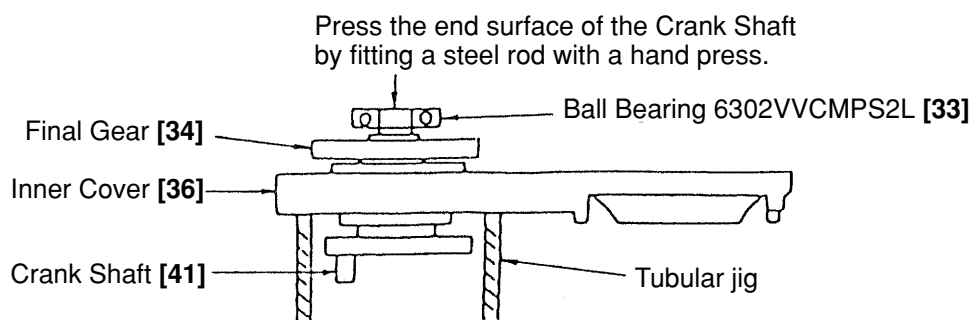

Fig. 13
First, remove the four Seal Lock Hex. Socket Hd. Bolts M5 x 16 [40] which fix the Bearing Cover [39]. Then, as illustrated in Fig. 13, support the lower surface of the Inner Cover [36] with an appropriate tubular jig, align an appropriate steel rod with the end surface of the Crank Shaft [41], and press down on the steel rod with a hand press. The Ball Bearing 6205DDCMPS2L [38], Distance Ring (B) [35], Final Gear [34], two Woodruff Keys 4 x 16 [42], and Crank Shaft [41] can then be disassembled from the Inner Cover [36].